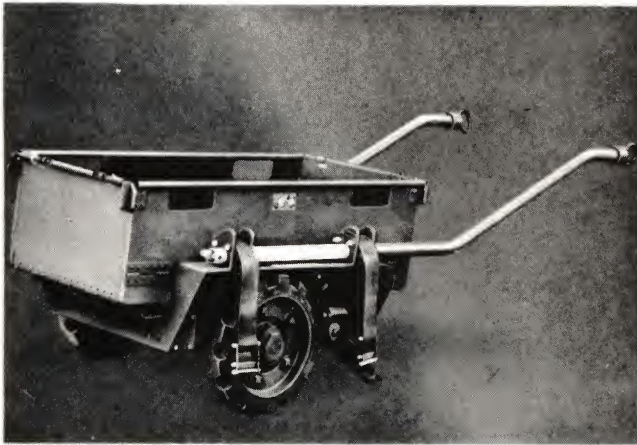

Figure 4-12. Aero 9B Adapter on Aero 12B Bomb Skid.
**4-3.4 AERO 9B ADAPTER.** The Aero 9B adapter on the Aero 12B bomb skid, figure 4-12, is used to transport warheads, TDDs, S-As, wings, and fins. The adapter alone weighs 23 pounds and when on the bomb skid, the total weight is 185 pounds. The box-like Aero 9B adapter is collapsible to 43 inches by 17-1/2 inches by 4-1/2 inches when not in use.